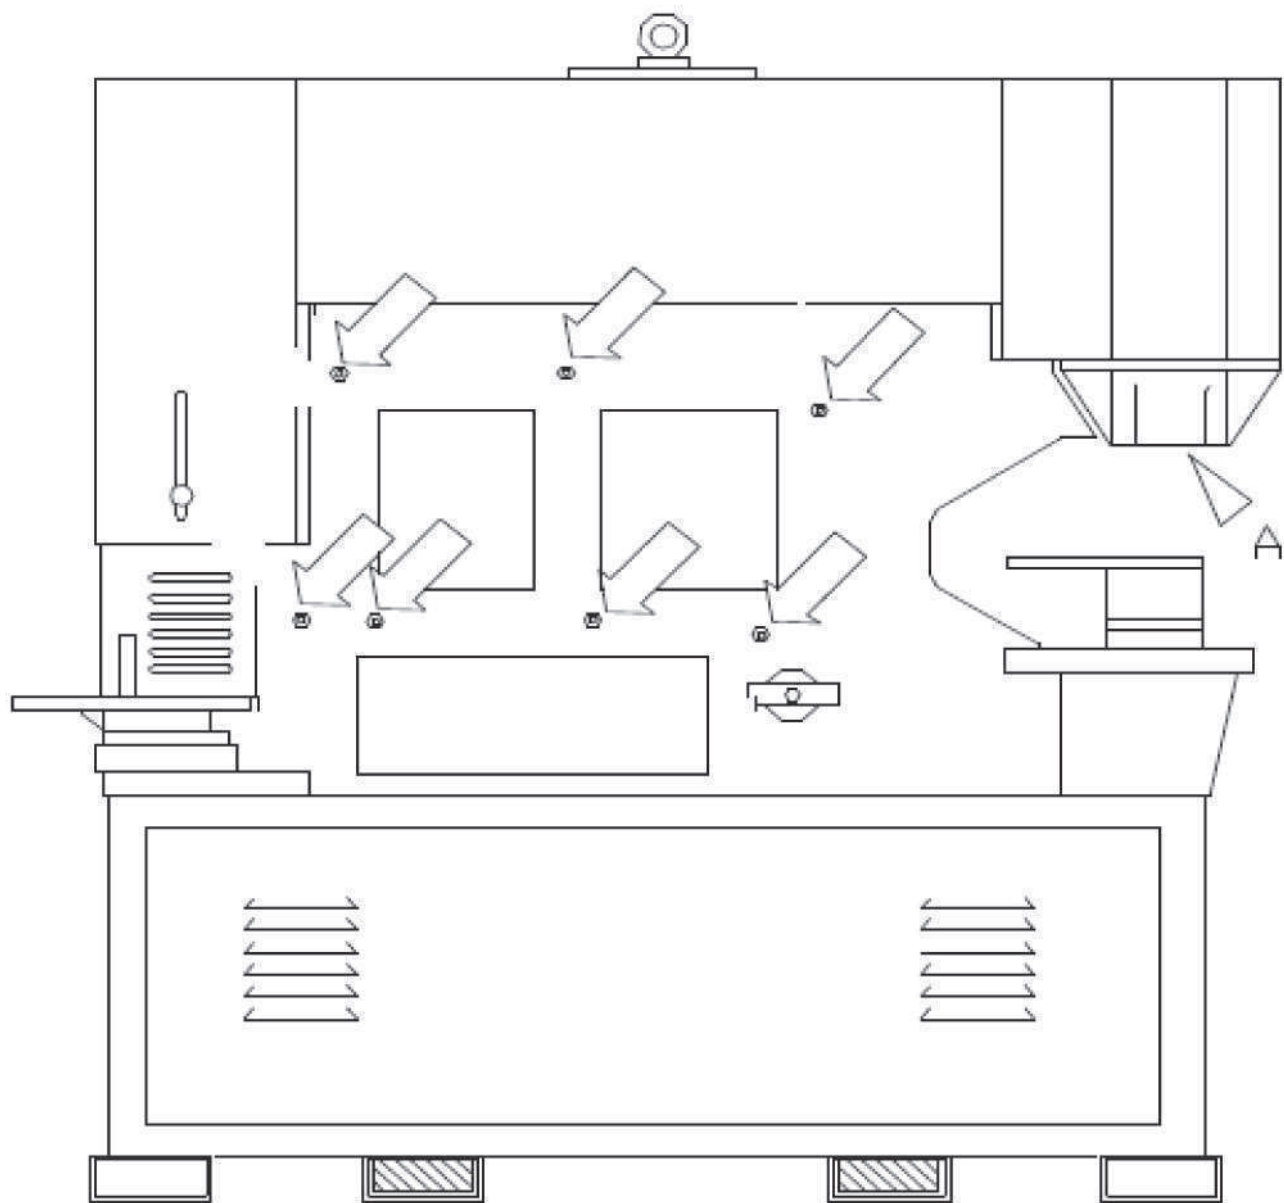

FIGURE 9
Lubrication of the Shear Beam is carried out on the back plate of the machine (offcut side). There are seven lubrication points, plus one on the Main Pivot Pin. Grease the main pin daily and grease all other lube points twice per week. Points are located as shown in FIGURE 9 on the following page. Once a month, apply a little grease to the two bronze Punch Ram Guide Pads (A), located as shown in FIGURE 9 Mobil Grease XHP 222 Special is recommended.